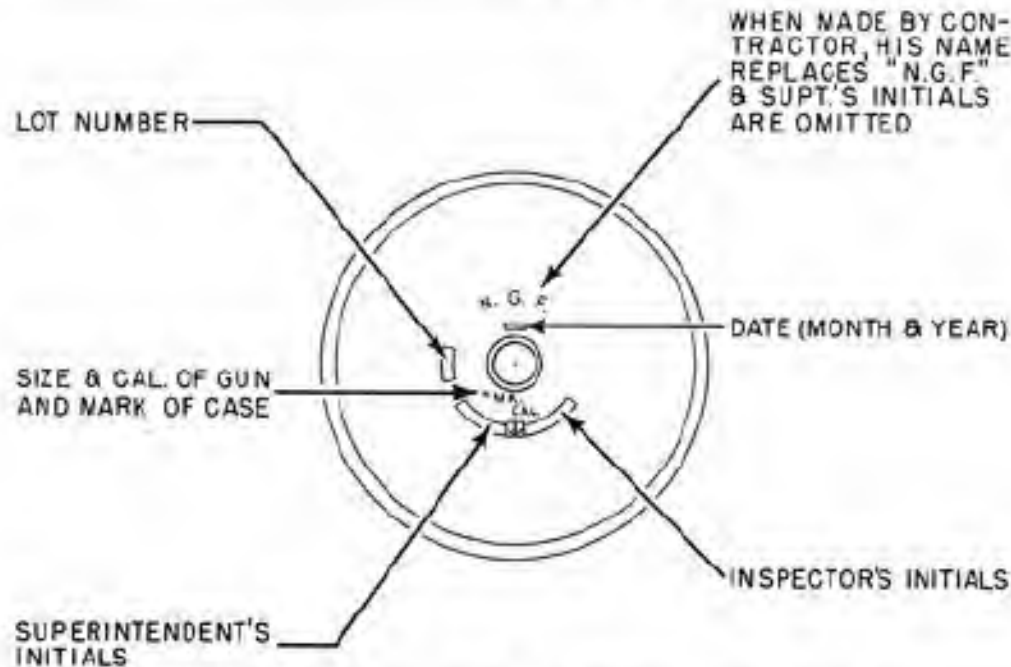

Figure 79. Stamping on Base of Cartridge Cases
**Case markings:** In addition to the information stamped on the head as shown in figure 79 the following marks are painted on the case: